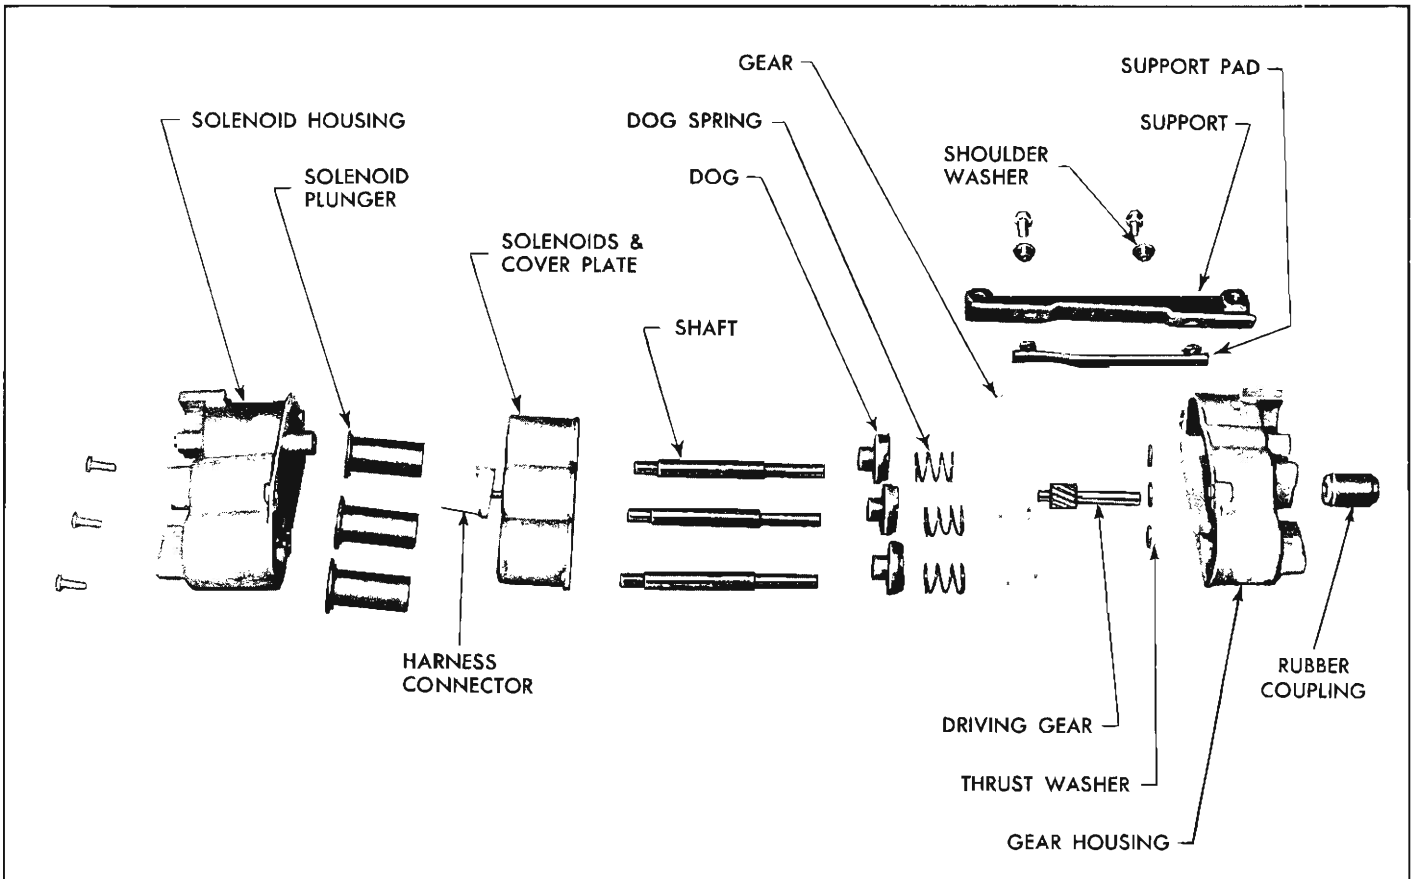

Fig. 47—Exploded View of Transmission
3. Remove screws securing gear housing to the solenoid housing; then, carefully separate housings and remove component parts of transmission assembly (fig. 47).